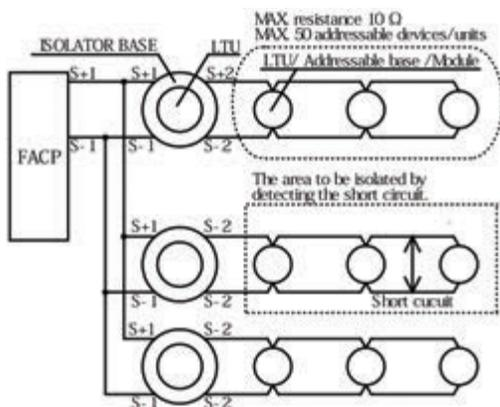

Figure 2: Style 4 SLC Wiring using AIB Base
1. Typical of NFPA Style 4 SLC (S+, S-) wiring arrangement using the AIB is shown in Figure 2. Resistance of wiring connected to the AIB must not exceed 10 ohms. A maximum of 50 addressable detectors and addressable modules can be connected to an AIB.